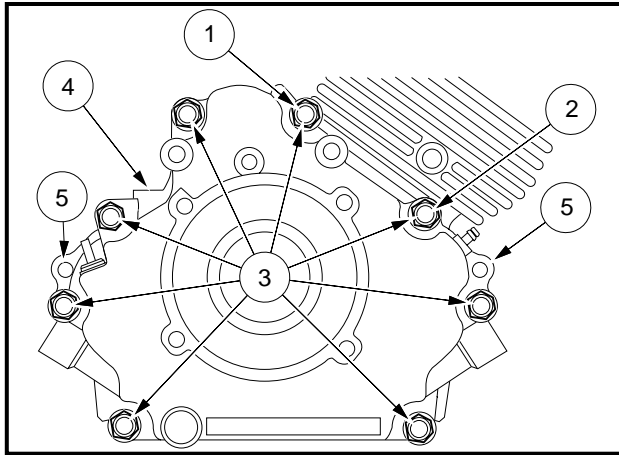

Figure 13-44 Crankcase Cover
2. Remove nuts and clamps at two-ended bolts (1 and 2) **(Figure 13-44, Page 13-24)**.
3. Remove eight bolts (3) and remove the crankcase cover (4) **(Figure 13-44, Page 13-24)**. See following **NOTE**.
- IF THE CRANKCASE COVER STICKS, TAP LIGHTLY WITH A PLASTIC Mallet ON ALTERNATE SIDES NEAR THE DOWEL PINS (5) **(FIGURE 13-44, PAGE 13-24)**.